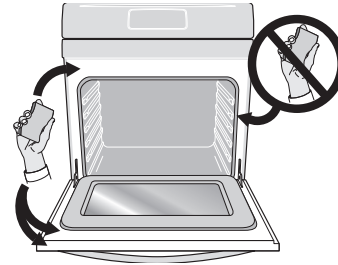

Figure 22: Clean around the oven door gasket
9. Wipe oven cavity and bottom. Do not clean oven door gasket (Figure 22). Avoid leaning or resting on the oven door glass while cleaning cavity.